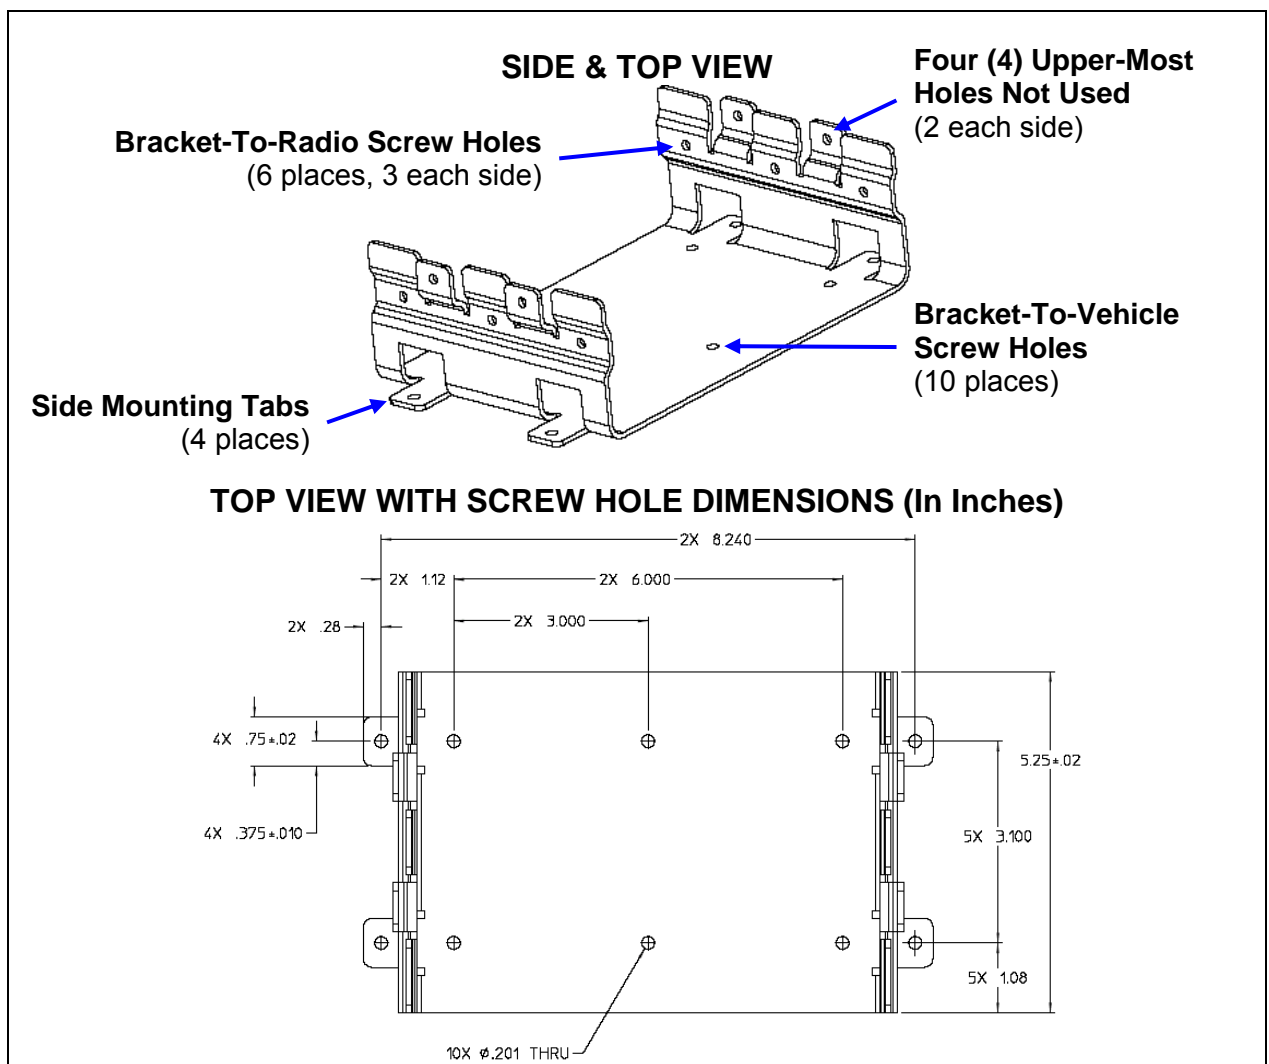

Figure 6-1: Base Bracket (Radio Not Shown)
1. Using the Base Bracket (Item 1 listed in Table 4-1 on page 20) as a template and/or the dimensional information shown in Figure 6-1, mark and drill mounting holes into the mounting surface as required. (Drilling is not required if using self-drilling screws.) At least six (6) screws are recommended for proper installation: Four (4) in the screw holes of the bracket's side tabs and two (2) in its center-most screw holes. If the installation prevents the installation of six screws, a minimum of four screws installed in the side tabs' holes is required.